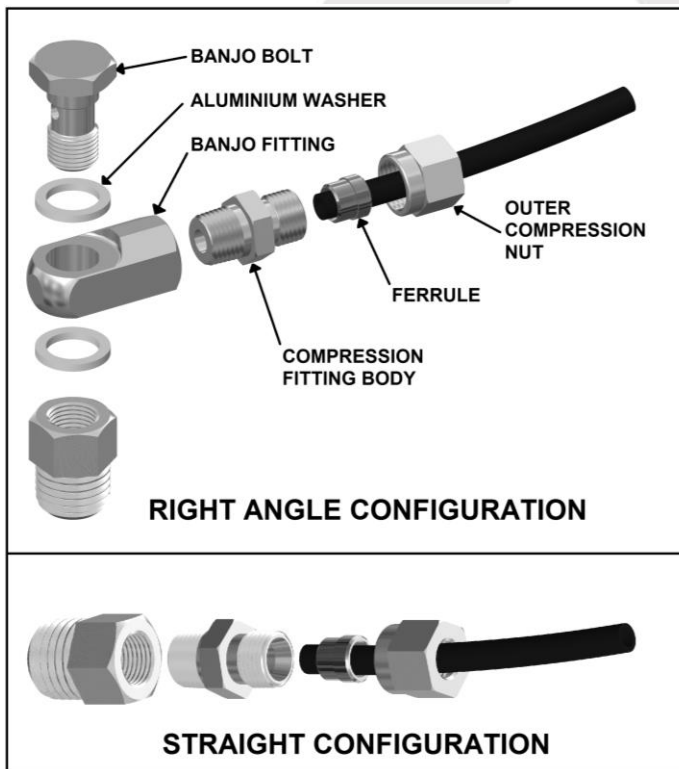

Figure 17.
- Assemble an aluminium washer onto the banjo bolt and insert through the banjo fitting. Assemble second aluminium washer and tighten into bulkhead fitting using a 14mm [9/16"] spanner. (Fig.17.)
- Insert the outer compression nut and ferrule over the air line. Ferrule should be orientated as per Fig.17.
**NOTE :** When right angle routing of the tube is not required, screw the compression fitting body straight into the bulkhead fitting body (Fig.17.).